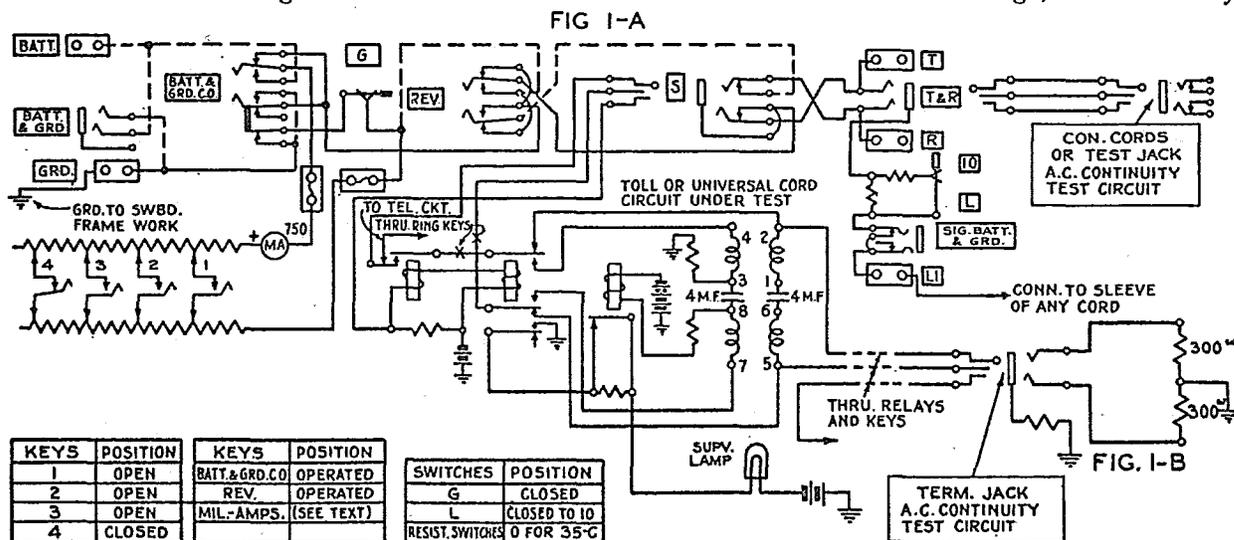

Fig. 1
Note: When the No. K-2232 test set is employed it will be necessary to provide a spare O. G. T. jack wired as shown in Fig. 1-B.
- 3.3 Arrange the test set keys and switches as shown in Fig. 1 for this test.
- 3.4 Provide ground connection to the current flow test set by means of a No. 893 cord connected to the switchboard framework and to the GRD terminal of the test set, as shown in Fig. 1-A.
- 3.5 Provide battery connection to the current flow test set by means of a No. 893 cord connected to the sleeve of any other cord circuit (temporarily removed from service) and to the L1 terminal of the test set, as shown in Fig 1-A.
Note: When the portable type a-c. continuity test set is employed, see note, associated with paragraph 2.2 and Fig. 1-B.